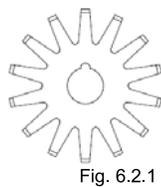

Fig. 6.2.1
- The “tenderizing” system is made up of star-shaped blades (Fig. 6.2.1) that penetrate the meat and cut the nerves so as to make it more tender.